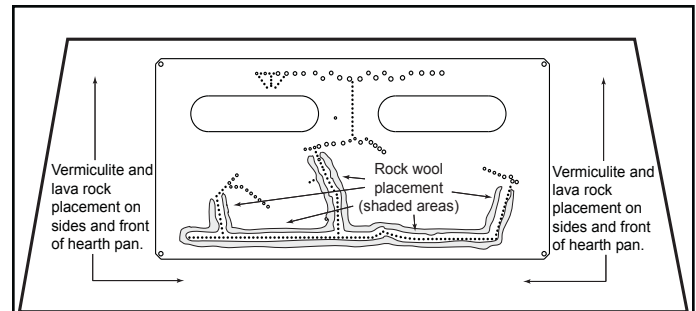

Figure 15.1 Placement of Lava Rock, Vermiculite, Rockwool
- See Figures 15.1 - 15.3.
- See Figures 15.1 and 15.4.